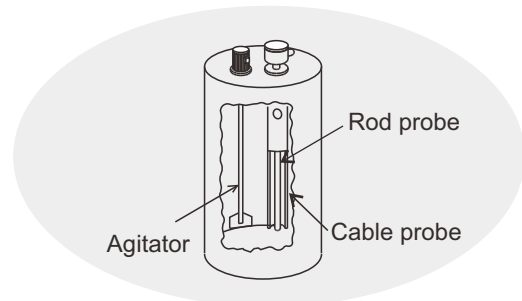

Fig. 4
8. If an agitator is in place (see fig. 4), a pipe shield outside the probe is recommended.